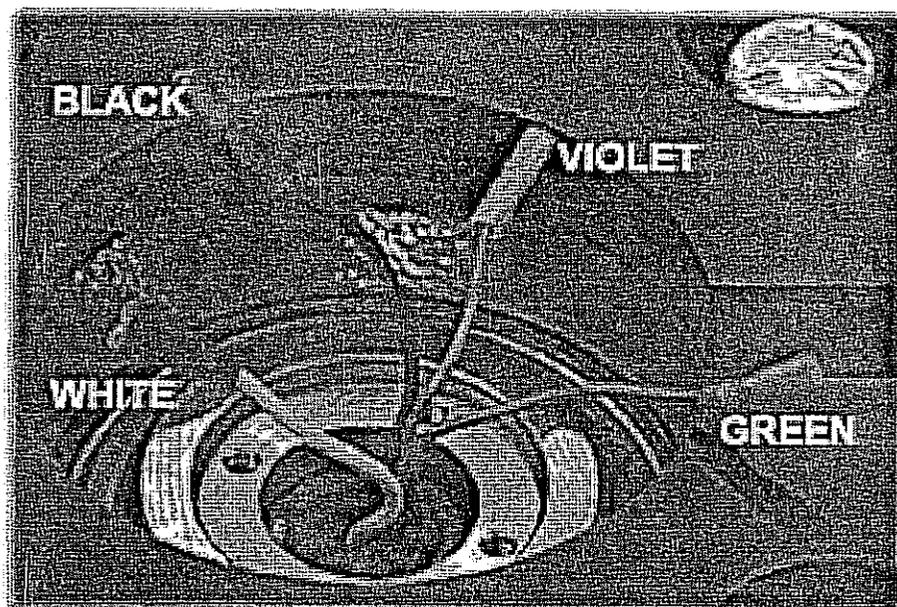

Figure 4
6. Remove the tape covering the hole in the middle of the floor and install the rotary contact and retainer flange into the center gear. Connect the wire harness to the rotary contact located in the center of the floor. (See figures 4 through 7).